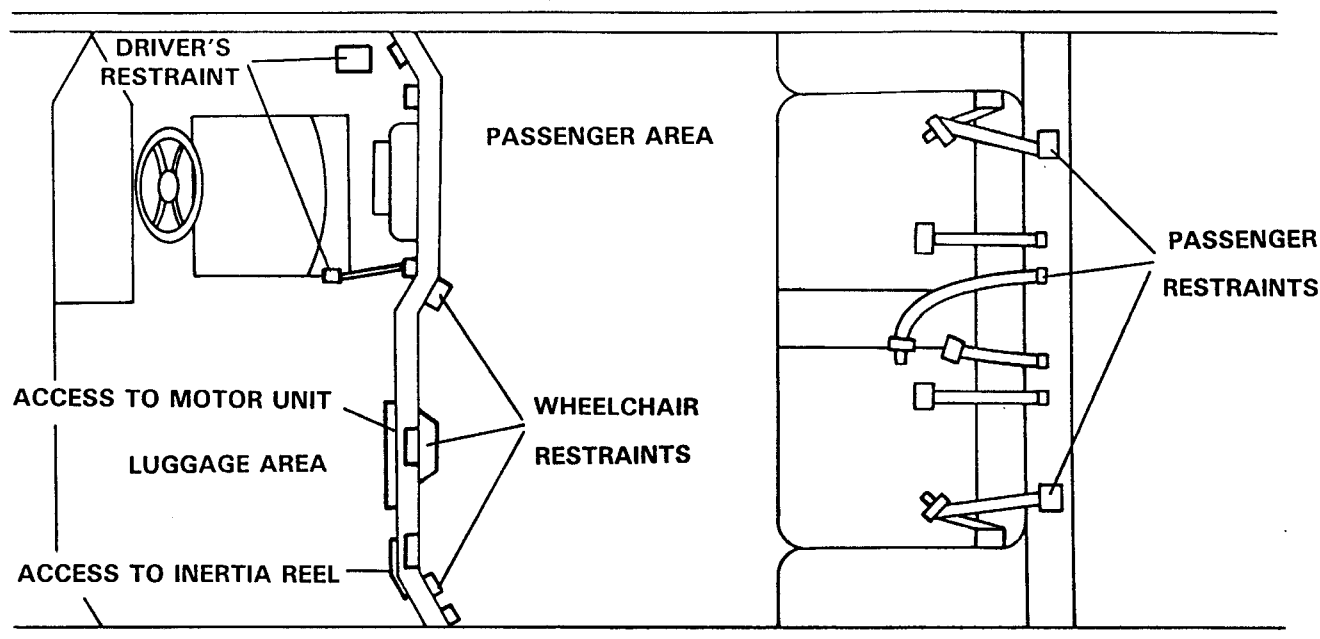

Figure 1
Figure 1 shows the approximate location of each belt and it's anchorage point.
1. The passenger restraints consist of rear parcel shelf mounted inertia reel mechanisms, one at each side of the vehicle. A lap strap arrangement is also provided for centre seated passengers. See figure 1.